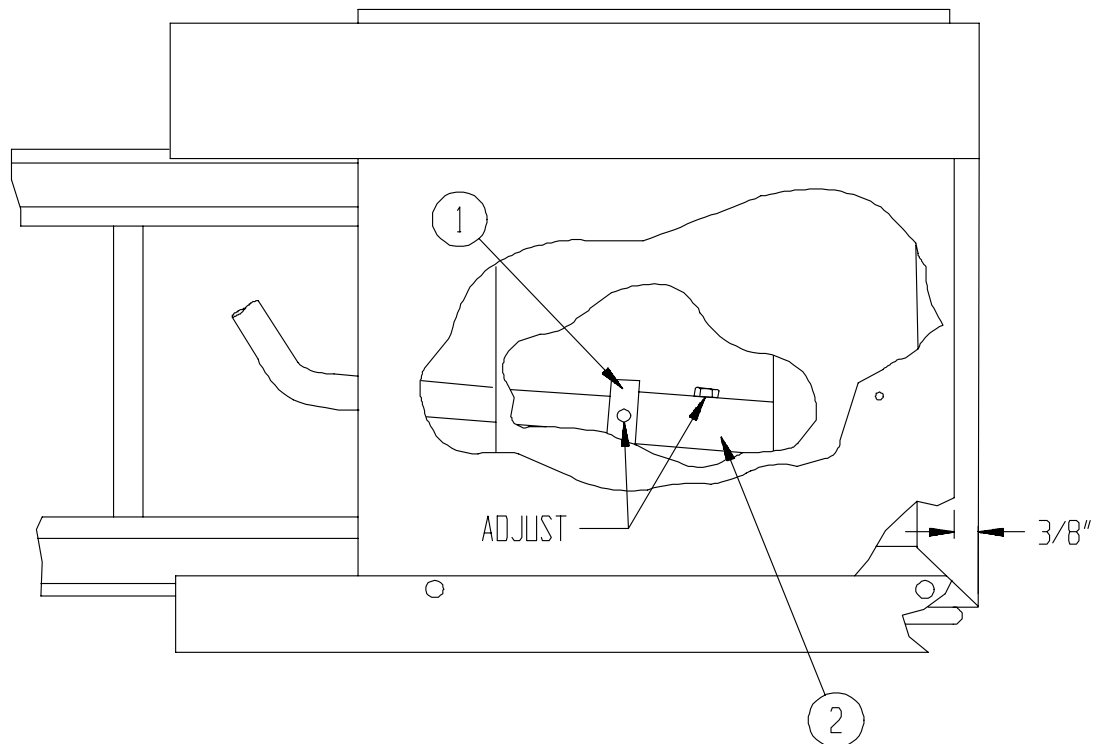

Figure 5-9A: Adjust Mandrel Stroke
FIGURE 5-9A
**Figure 5-9A** - The first adjustment is done with a box in the compression. At the end of the forming stroke the box should clear the compression plate by approximately 3/8 inch. This measurement is made by adjusting the Mandrel Con Rod (0035600) and set the collar (0100600) to these specs.